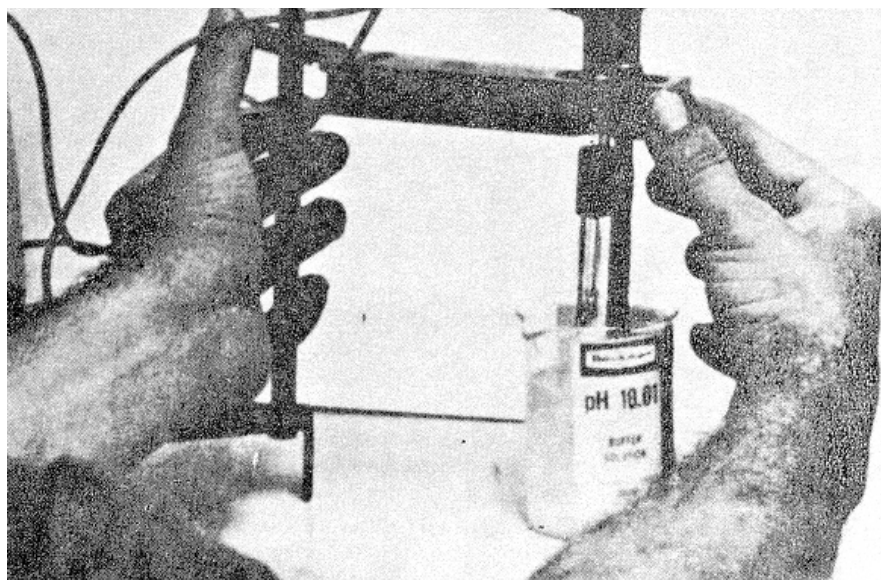

Figure 7
- e. Developer solutions are alkaline; therefore, the pH readings would be between 7 and 14. (See figure 7).
4. Grasp the electrode holder in the back, squeeze and raise the electrodes to the top of the rod (figure 7).